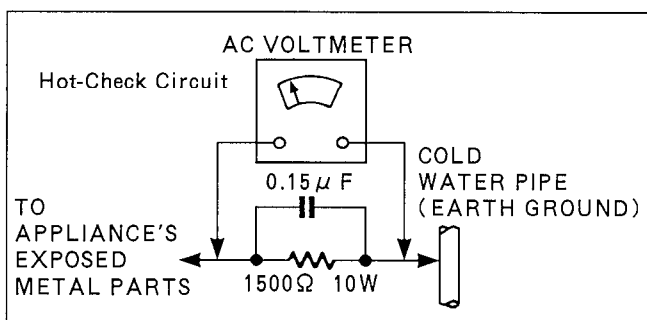

Figure 1
## LEAKAGE CURRENT HOT CHECK (See Figure 1)
2. Connect a  $1.5\text{K}\Omega$ ,  $10\text{W}$  resistor, in parallel with  $0.15\ \mu\text{F}$  capacitor, between each exposed metallic part on the set and a good earth ground such as a water pipe, as shown in Figure 1.